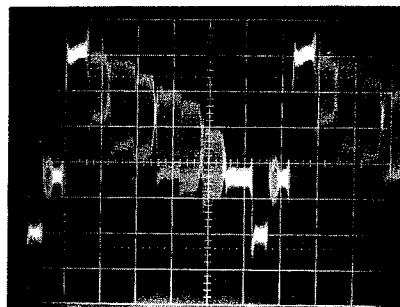

Fig. 27
- Adjust the amplitude of the signal on TP454 to 1.0 ± 0.05 Vp-p. (when terminated with 75 ohm or 2.0 ± 0.1 Vp-p. when unterminated) with R321 in the luminance section of PV01. (Fig. 27)